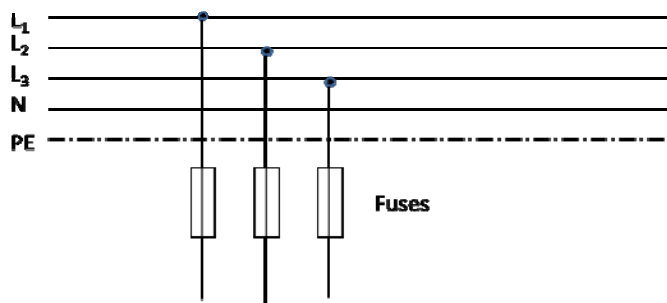

Fig. 1 Fuse Placement
In electrical installations, the fuses are always connected into live wires (L_1 , L_2 and L_3 as shown in Fig. 1) and never into the neutral (N) or the protective earth line (PE).